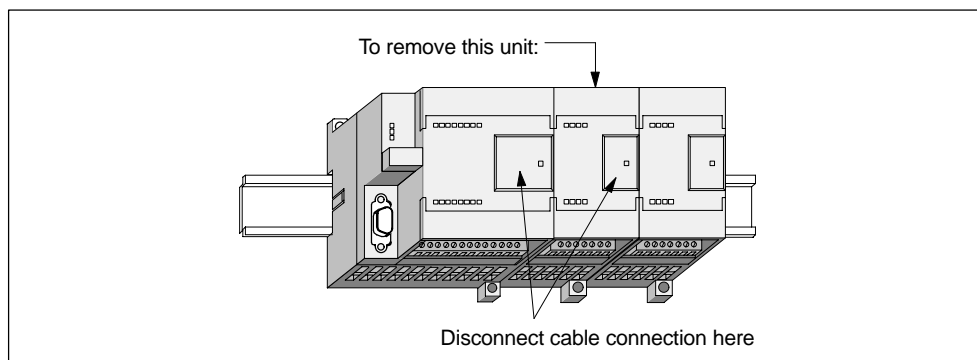

Figure 2-8 Removing the Expansion Module
1. Disconnect all the wiring and cabling that is attached to the module that you are removing. See Figure 2-8. Some CPUs and expansion modules have removeable connectors.